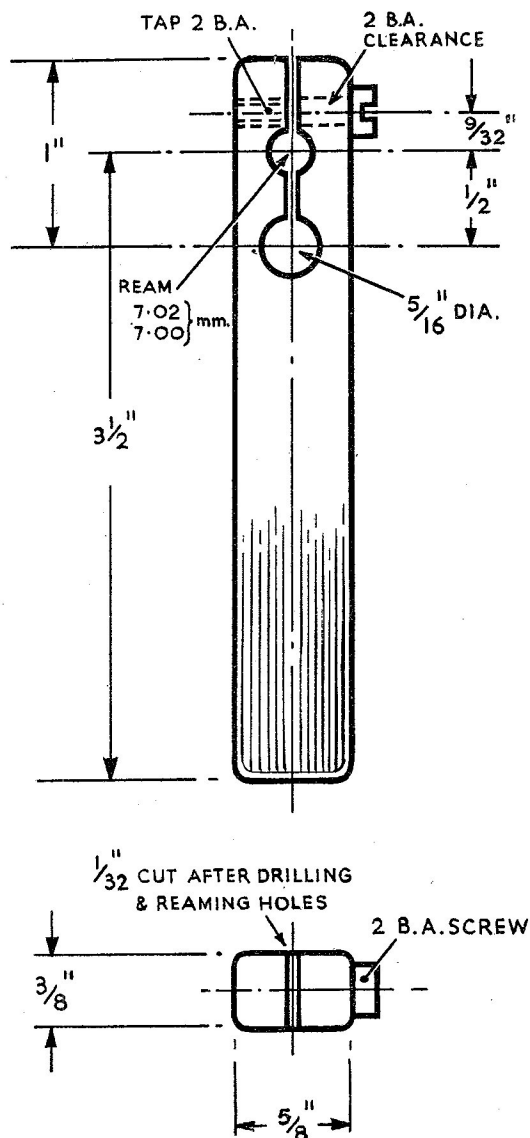

Fig. 3. Tool for gripping armature shaft
4. Another tool, for gripping the armature shaft, may be manufactured locally from brass or gunmetal to the dimensions given in fig. 3. It is essential that a good finish be obtained in the 7.00/7.002 mm. hole in order to avoid damage to the armature shaft, and it is advisable to round off all corners to provide a comfortable grip.
12. Unscrew the motor through bolts, but do not remove the brush-holder clamping bolts, and separate the commutator end-frame from the field yoke, leaving the drive end-frame in position. Unscrew the nut on the drive end of the armature shaft by gripping the commutator end bearing seating of the shaft with the special tool (fig. 3) whilst turning the nut. Remove the nut and its neighbouring slinger ring and extract the armature from the motor. Unscrew the retaining plates securing the drive end bearing, and extract both the drive end and the commutator end bearing. These bearings may be extracted by gently tapping the inner race, using a soft brass or an aluminium drift.